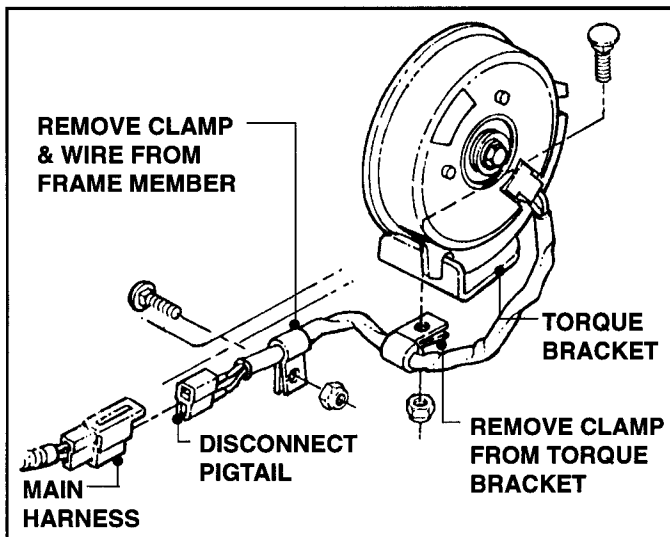

FIGURE 5.8
2. Remove Drive Belts from Electric Clutch, then disconnect Electric Clutch Pigtail from Main Harness. Remove Wire Clamps. See Figure 5.8.
(See Pages 5.5 & 5.6, refer to Figure 5.8).